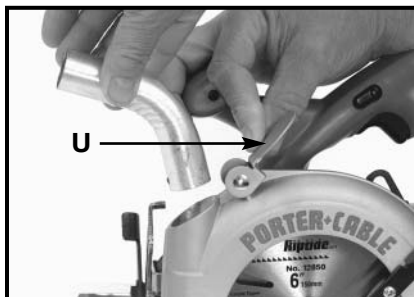

Fig. 18
1. Open the exhaust cover (U) Fig. 18 and clean out any accumulated sawdust.